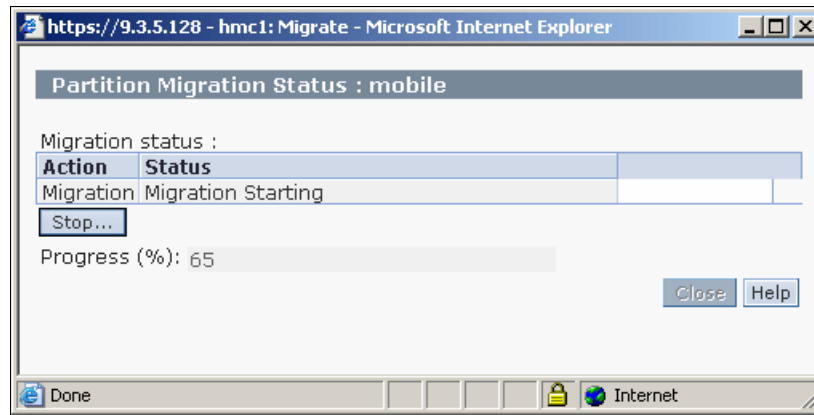

Figure 14-20 Partition Migration Status window
15. The Migration status and Progress are shown in the Partition Migration Status window, as shown in Figure 14-20.